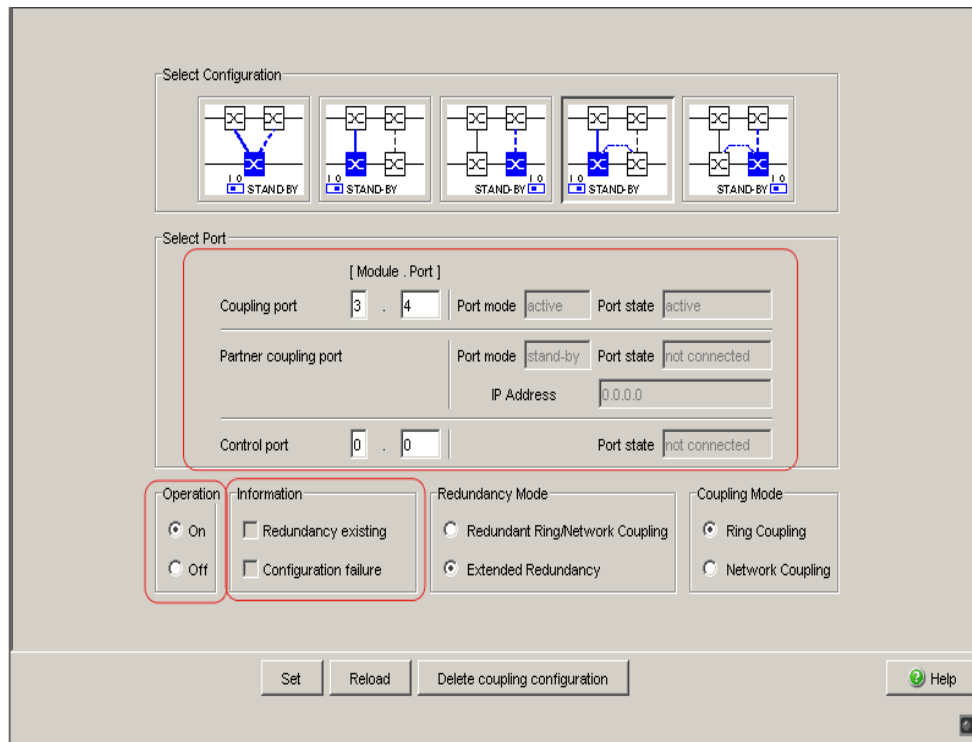

Figure 23: Selecting the port and enabling/disabling operation
☐ Select the coupling port (see fig. 23), (see table 9).
☐ Select the control port (see fig. 23), (see table 9).
- The displays in the “Select port” frame mean (see fig. 23):
The displays in the “Information” frame mean (see fig. 23):
- ☐ Select the coupling port (see fig. 23), (see table 9).
- ☐ Select the control port (see fig. 23), (see table 9).
The displays in the “Select port” frame mean (see fig. 23):